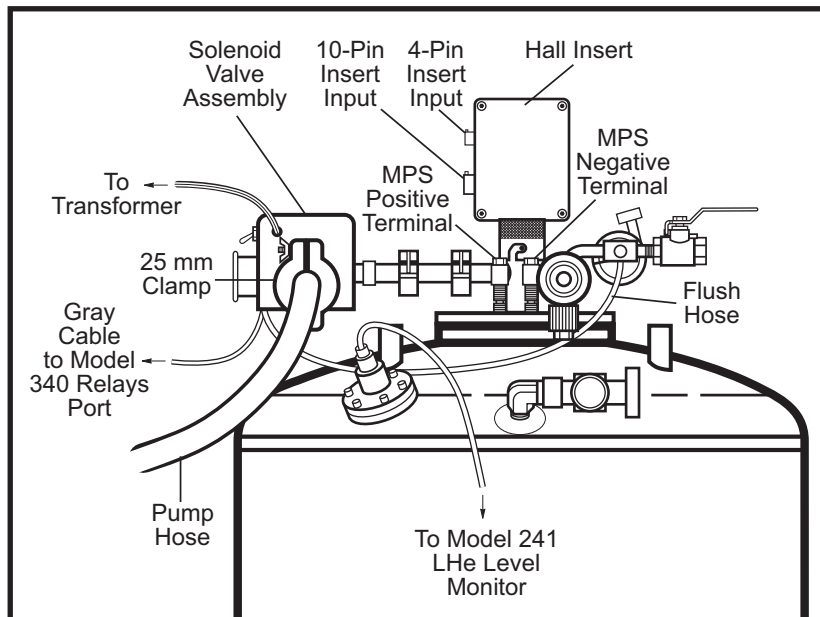

Figure 3-10. Cryostat and Dewar Connections
2. Remove the cryostat from its shipping crate and carefully lay it on its side, or place it in a probe stand (recommended). Clamp the pump Solenoid Valve Assembly to the cryostat Sample Space Access Pipe with a 16 mm clamp. See Figure 3-10.
3. Push the end of the Solenoid Valve Assembly Flush Hose onto the ribbed inlet of the Vent Manifold. See Figures 3-10 and 3-11.
- Open the cryostat Vent Valve (Figure 3-10) and with two people, lift the cryostat and carefully slide it into the dewar. If pre-cooling, the liquid nitrogen will boil vigorously upon cryostat insertion. Tighten the eight cryostat flange bolts, complete Steps 6 thru 11, then tighten again.
- Clamp pump hose to Solenoid Valve Assembly with 25 mm clamp (Figure 3-10). Plug in pump and turn it **On**.
- If pre-cooling with liquid nitrogen, after the boil-off dies down, shut Vent Valve and open Needle Valve one full turn (Figure 3-10).
- Push Flush Switch back to **FLUSH** (Figure 3-10).
- Remove the Insert Pipe Cap (Figure 3-10) and slide the Hall Insert into the Insert Pipe. Align the Insert Cap Slot with the Insert Pipe Locking Nub and turn the Hall Insert clockwise to lock in place.
15. Plug gray cable from Solenoid Valve Assembly into rear Model 340 Relays outputs (Figures 3-10 and 3-11).